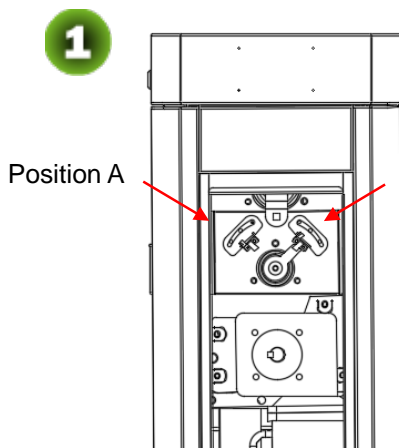

Figure 3-1
- 1) If the boom fails to fall into a level position, adjust position A; if the boom fails to be lifted upright, adjust position B. See Figure 3-1.